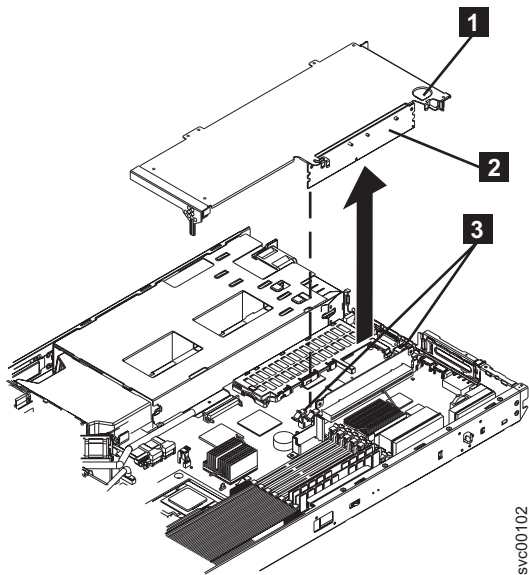

Figure 178. SAN Volume Controller 2145-8F2 or SAN Volume Controller 2145-8F4 slot 2 adapter
- a. Open the retaining clips on both sides of the slot 2 riser card (**2** in Figure 178 on page 182) by pushing the clips down and away from the riser card until the clips are no longer attached to the riser card.